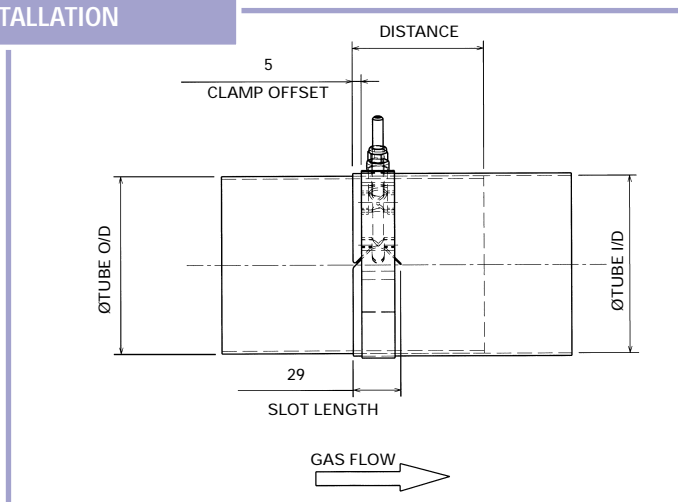

Figure 1: OD/ID Joint requirements
- 3.3 All OD/ID joints must be assembled as shown in Figure 1 where 'Distance' is a nominal 65 mm (minimum 50 mm).